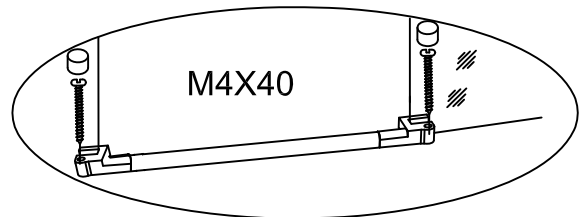

Fig.33
Using the hardware from screw pack 3 install the threshold bar assembly. Install the decorative screw plug covers into Threshold End Caps (12). See Fig.33 for details.